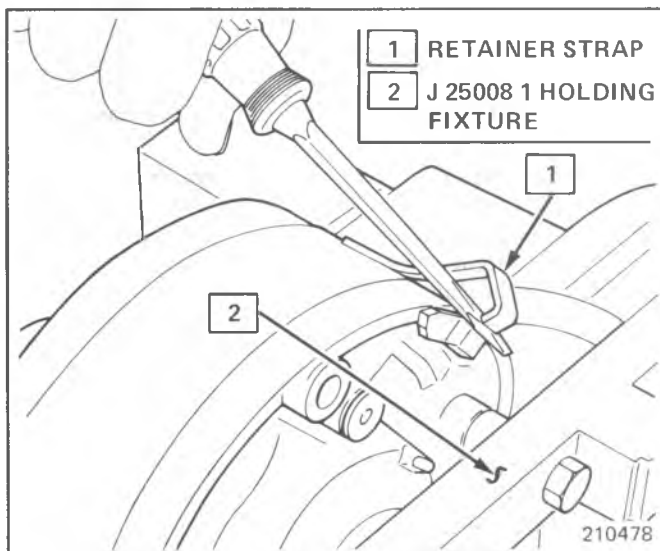

Fig. 1C1-40 Releasing Shell Retaining Strap
5. Pry the shell retaining strap away from the cylinder and position the strap high enough to clear the cylinder as the Shell is removed (Fig. 1C1-40).
6. Remove Compressor Holding Fixture J 25008-1, and reverse Holding Fixture with step block protrusions engaging the compressor Shell. Install the medium-length metric thread mounting bolts through the Holding Fixture and thread them finger-tight on both sides into the compressor cylinder until the step of the fixture protrusions contact the compressor Shell (Fig. 1C1-40). Check to be sure the step protrusions do not overlap the cylinder but will pass both sides. Allow